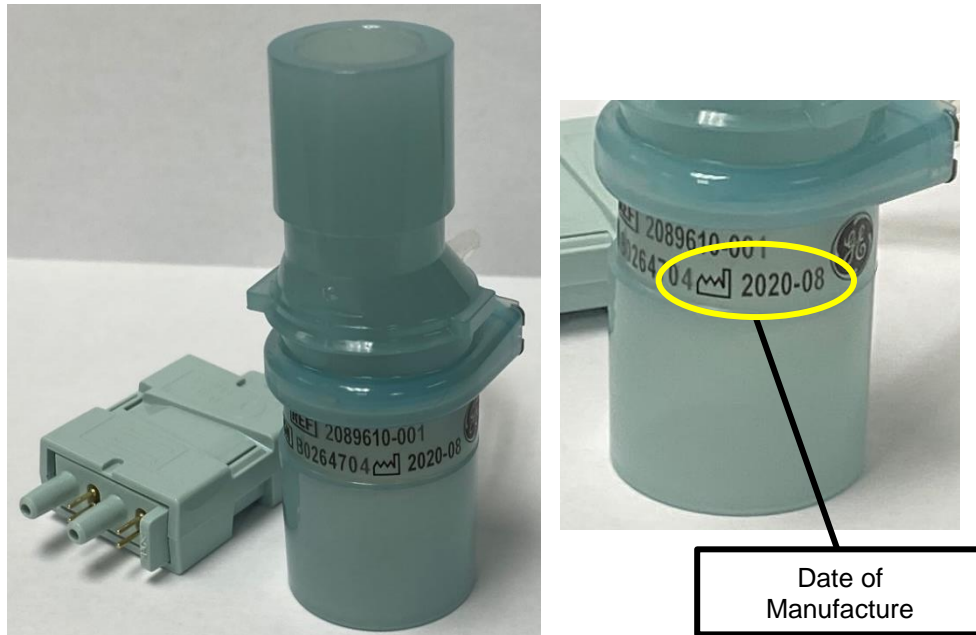

Figure 1: Flow Sensor Body Date of Manufacture
- a. Look for the date of manufacture on the flow sensor body (see Figure 1 below). The date is listed as YYYY-MM (year then month), e.g., 2021-04 = April 2021.